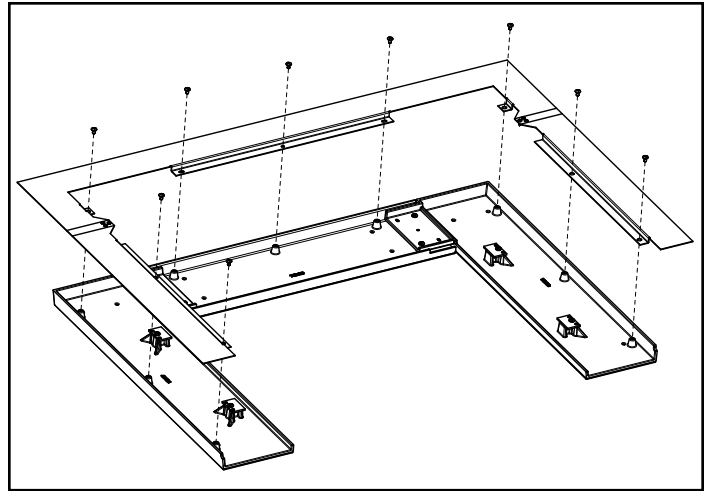

Figure 22.3
1. Align holes from Surround Extension Assembly as shown in **Figure 22.3**.
2. Using a Phillips Head screwdriver and nine (9) 1/4"-20 x 3/8" Phillips head screws; secure Panel Extension Assembly to Cast Surround Assembly.